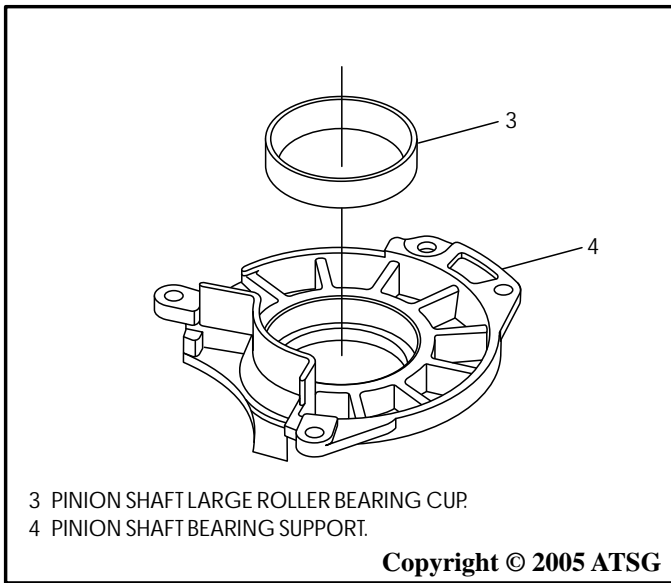

Figure 66
4. Press new pinion shaft large roller bearing cup into the bearing support, as shown in Figure 66 using proper adapters and hydraulic press.